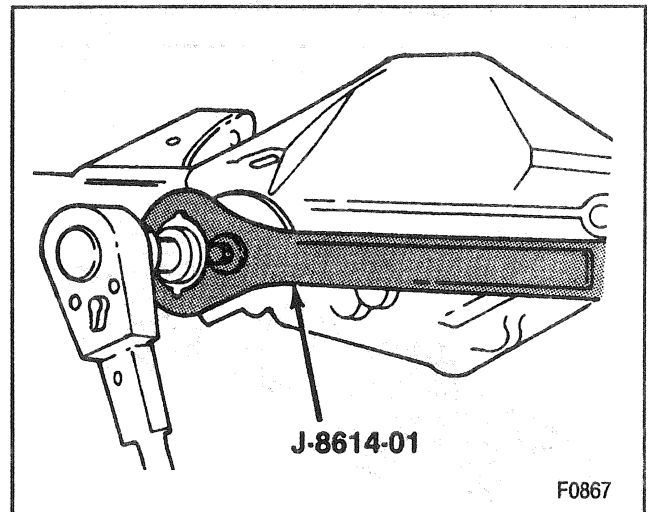

Figure 17—Removing the Drive Pinion Nut
3. Pinion flange nut and washer (Figure 17)